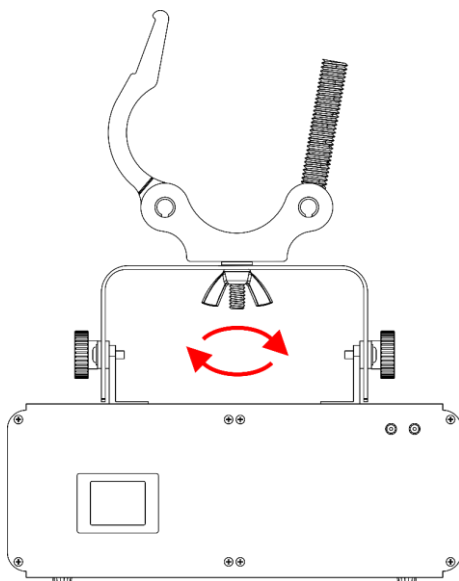

Fig. 05
- 04) Turn the **hex nut (07)** counterclockwise, to remove it.
- 05) Turn the **wing nut (06)** counterclockwise, to remove it.
- 06) Attach a load to the **hex bolt (08)** and secure it in one of the 2 ways:
- Temporary installation: Put the **wing nut (06)** on the **hex bolt (08)** and turn it clockwise, to tighten the load (Fig. 05).